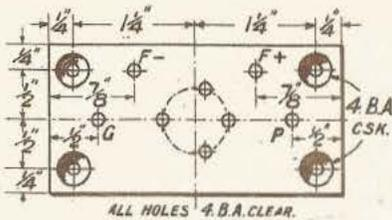

Fig. 9.—Drilling details of valve panel.
*Figs. 9 and 10.—This is a good method of attachment (covered by Burndept patents) employing a binding of adhesive fibre tape and a segment of fibre.*
from a piece of 1/4-inch ebonite, 3 inches long and 1 1/2 inches wide, laid out and drilled in the way shown in Fig. 9. All holes are 4B.A. and may be made tapped or clearance, according as the constructor prefers to screw in his terminals or valve legs or to fix them with nuts. The counter-sunk holes at the corners are for 1-inch 4B.A. screws, which serve